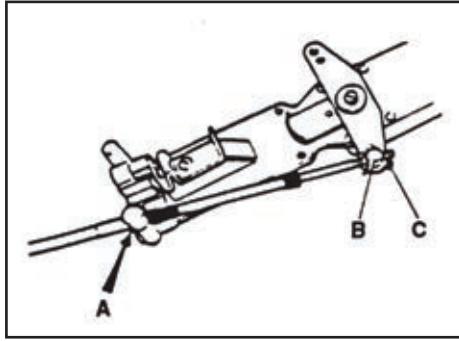

Figure 4.
**STEP 1.** Push the shift cable through the appropriate retainer, making sure the cable seats securely into the retainer (Figure 4, item A).
**STEP 3.** Connect the pivot to the shifting lever (Figure 4 item B) and secure with a cotter pin (Figure 4 item C).